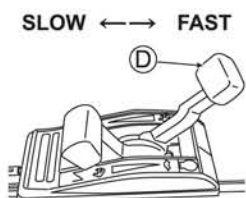

Fig. 19
5. Adjust the mowing speed with Gearshift lever (D). (See Fig. 19)